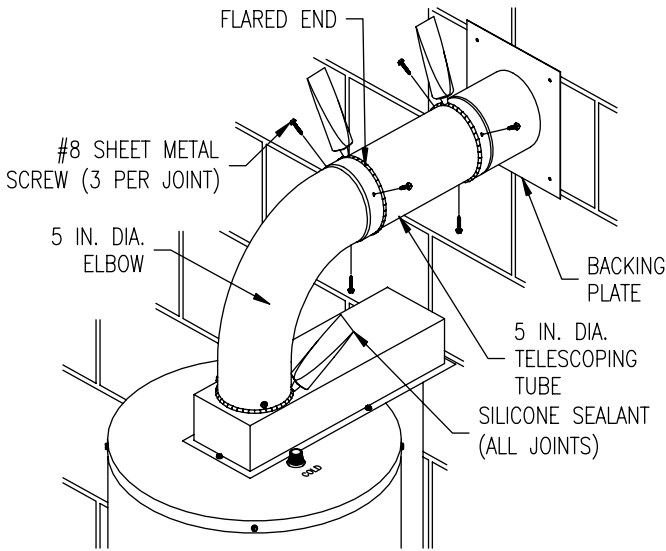

Figure 19
9. From inside the building, slide the backing plate over the five (5) inch (12.7 cm) diameter telescopic tube(s) until it is flush with the wall. Adjust the length of the five (5) inch (12.7 cm) diameter telescopic tube(s) and insert the end into the flared end of the five (5) inch (12.7 cm) diameter elbow one (1) inch (2.5 cm) (or until seated). Drill three (3) 1/8 inch diameter holes, 120° apart, through the five (5) inch (12.7 cm) diameter elbow into the five (5) inch (12.7 cm) diameter telescopic tube(s) and through the tubes where the small and large sections overlap. Fasten with three (3) #8 sheet metal screws (supplied). Using the supplied RTV silicone sealant, apply a sufficient amount to seal all joints. (See Figure 19).